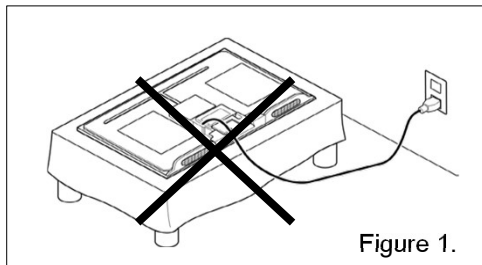

Figure 1.
- 10) During the repair, DO NOT leave the POWER ON or Burn-in period for more than 1 hour while the TV is facing down on a cloth. Refer Figure 1.